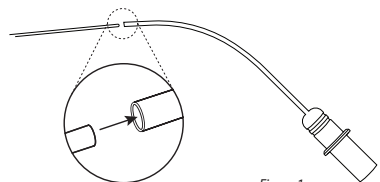

Figure 1
Step 2: Put the Endo Fiber into the pipe of the Endo Guide and gently push it in until it stops (Fig. 1).
Step 4: Press the ON/OFF button (A) to operate.